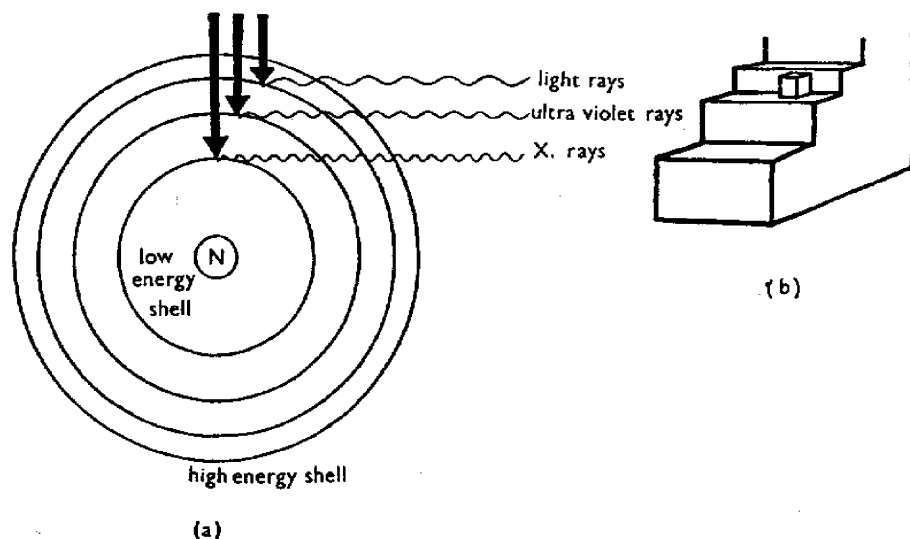

Fig. 206
electrons in a shell near the nucleus have less energy than those in shells further away (Fig. 206(a)). Energy is therefore needed to move an electron from an inner shell to one further out.
Here is a gravitational analogy to help you understand these energy levels in an atom. Imagine a box sitting somewhere on a flight of steps (Fig. 206(b)). It possesses a certain amount of energy because of its position. *What is this energy called? (7)* If you raise the box to a higher step you have to do work. *Why? (8)* The box now possesses more energy.
If an electron is raised from a shell near the nucleus to an outer shell it then possesses more energy. This stored energy can be used to produce other forms of energy if the electron falls back to its original shell. To raise the electron to an outer shell requires energy, and this may be provided by heating the substance, or by bombarding the atom with fast moving electrons. When some of their electrons have been raised to their outer shells, atoms are said to have been *excited*. They do not remain in this state for long, however, and soon the electrons jump back into shells at lower energy levels. As they jump back energy is given out in the form of light waves, ultra-violet rays or X-rays (Fig. 206(a)). When an outer electron jumps to the next shell light is given out. With bigger electron jumps ultra-violet rays are emitted, and if an outer electron jumps back into the inner shell X-rays are produced.